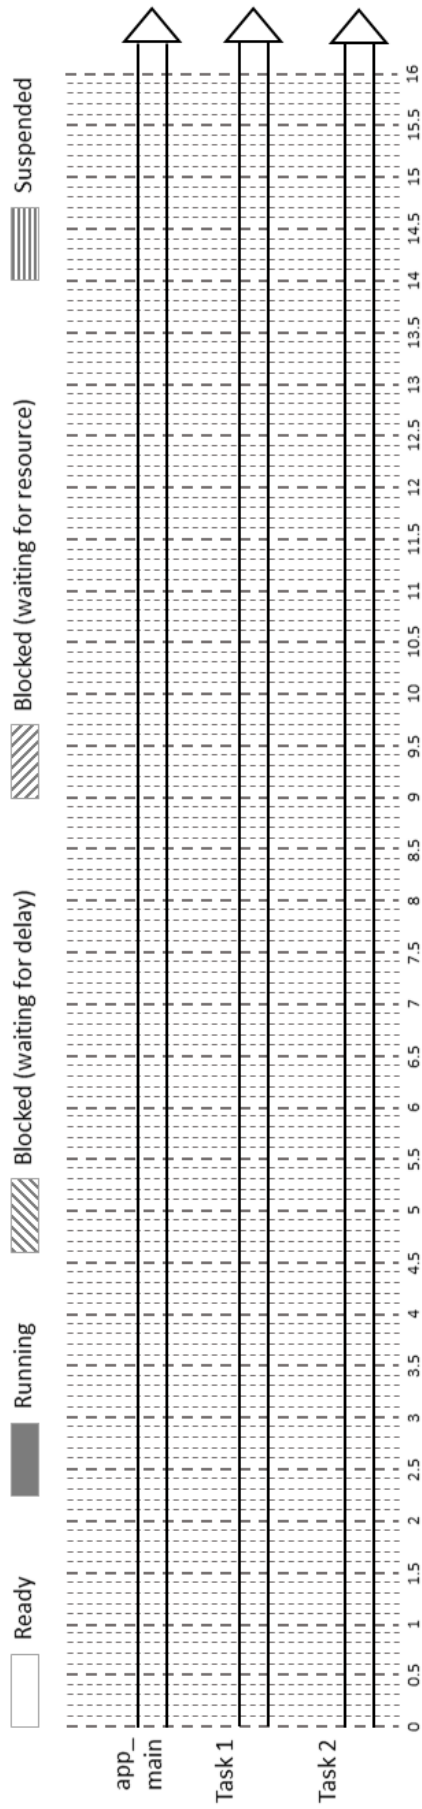

FIGURE 1.2 – Scheduling of 3 tasks.
15. For this scenario, trace in the figure 1.2 the behavior of the *app_main()*, *Task 1* and *Task 2* tasks until 160 ticks.